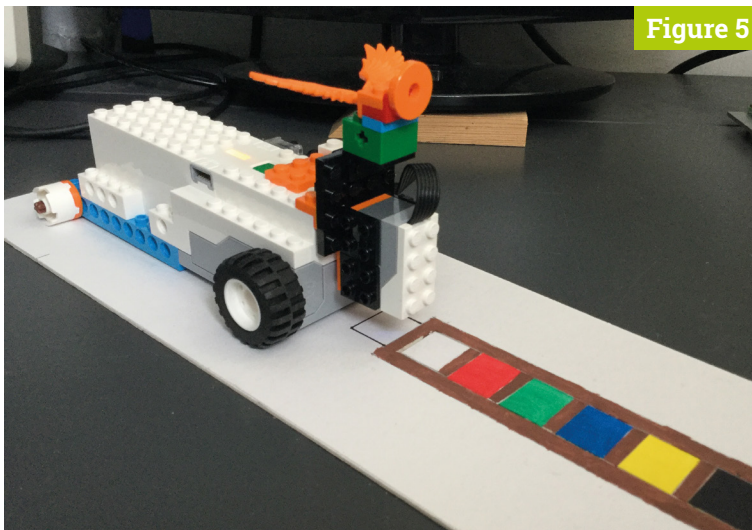

Figure 5
▶ Figure 5 Si-clops and a loaded sample holder
We used low-cost acrylic paints from an art shop to paint our tiles; there is a 4 mm strip down the edge of the tile and we painted it brown. We found that brown was a good neutral colour that did not affect the detection of adjacent colours. Then we painted the main colour in the rest of the tile. For a full set of tiles you need eight of each colour, but six is enough in practice. Also, the mounting board we used had a black back, so there is no need to make any black tiles – just simply turn any tile over. **Figure 5** shows the finished assembly.